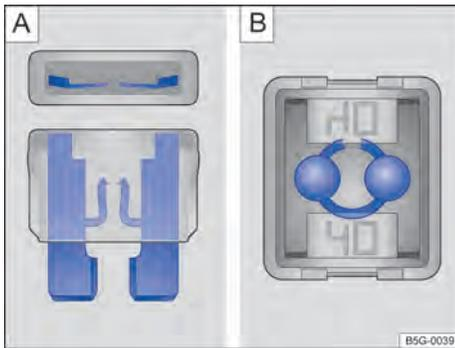

Fig. 183 Blown fuse: [A] flat fuse, [B] blocking fuse.
- A blown *blade fuse* (ATO®, MINI®) is detected from above or from the side through its transparent body by the melted metal strip → Fig. 183 A.
- A blown *cartridge fuse* (JCASE®) is detected from above by the melted metal strip visible through the transparent housing → Fig. 183 B.